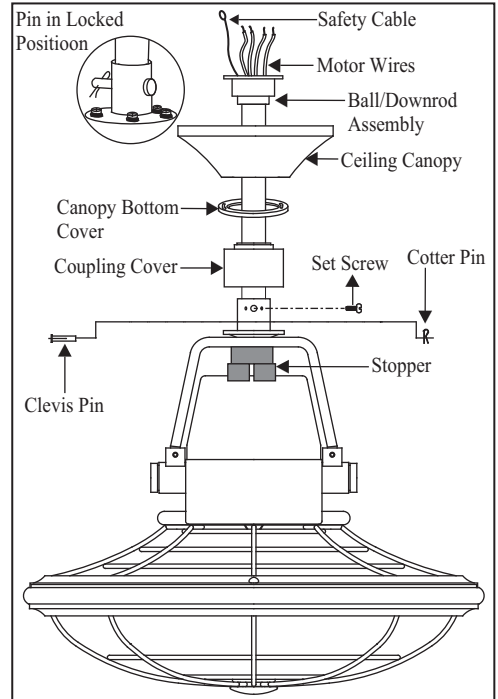

Figure 5
3. Remove the clevis pin, cotter pin and set screws from the top of the motor assembly. (Figure 5)
4. Route wires and safety cable exiting from the top of the fan motor through the coupling cover, canopy cover, canopy and then through the ball/ downrod. (Figure 5)
5. Align the holes at the bottom of the downrod with the holes in the coupling on top of the motor housing (Figure 5). Carefully insert the clevis pin through the holes in the collar and downrod. Be careful not to jam the clevis pin against the wiring inside the downrod. Insert the cotter pin through the hole near the end of the clevis pin until it snaps into its locked position, as noted in the circle inset of Fig. 5.
6. Tighten two set screws at top of the fan motor collar. (Fig. 5)
**THE FAN MOTOR ASSEMBLY IS SHIPPED WITH A STOPPER TO PREVENT MOVEMENT DURING TRANSPORTATION. DO NOT REMOVE THIS STOPPER UNTIL INSTRUCTED TO DO SO IN THIS MANUAL. (FIG. 5)**